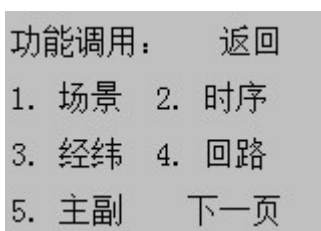

Figure 14-1
On the main page Figure 2-3 When you press the Confirm key, the interface will enter the function call interface Figure 14-1. You can select the desired option by using the 'Menu/Confirm', 'Left' and 'Right' keys and enter the corresponding function call interface. As shown in items 14-18.
Press the OK key when the Back option, and the interface will return to the setting interface Figure 14-1.